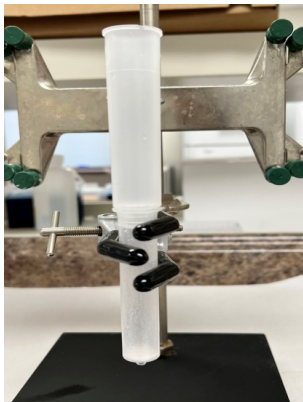

Figure 1. Column equilibration.
- Put the reservoir to the top of the column as shown in **Figure 1**.